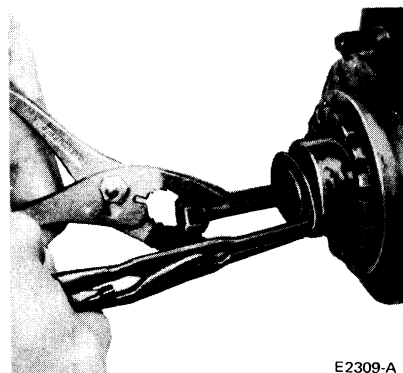

FIG. 17 Snap Ring Installation
4. Install a new snap ring. If necessary, pull out axle shaft with capscrew to allow clearance in groove for snap ring on axle shaft. Be sure snap ring is fully seated (Fig. 17).